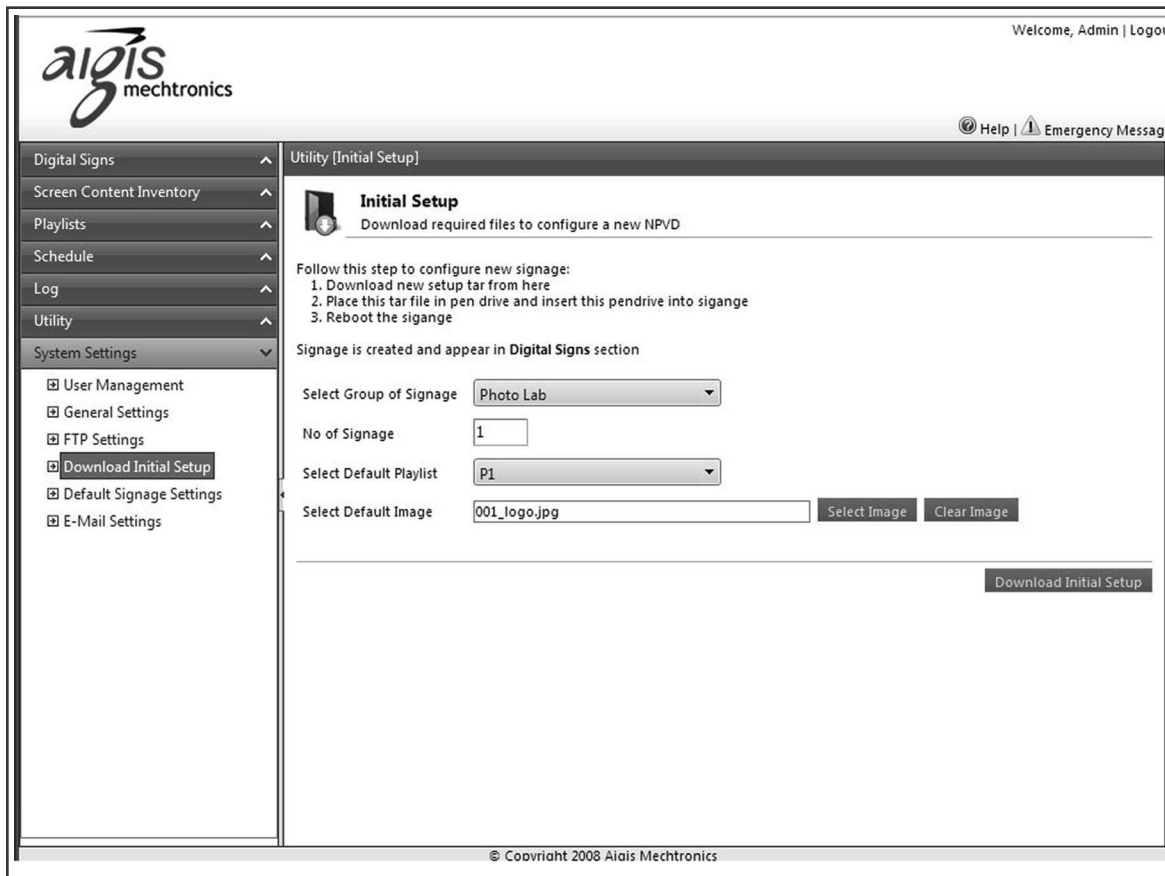

Figure 3: System Settings Tab
2. Once logged in, open the 'System Settings' tab on the left side, and then select 'Download Initial Setup' See **Figure 3**.